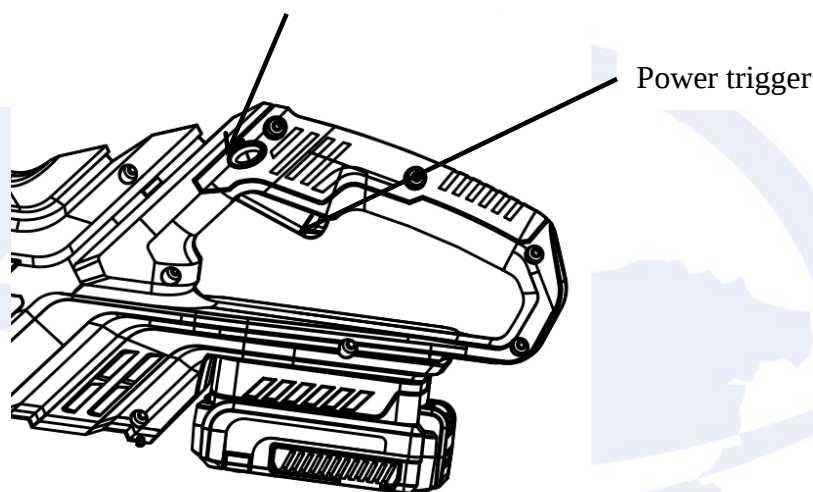

Figure 7
6. When ready to make a cut, press in power trigger lockout and squeeze power trigger(See Figure 7). This will turn the machine on. Releasing trigger or push the kickback guard to position B will turn the machine off. Make sure saw is full speed running before starting a cut.